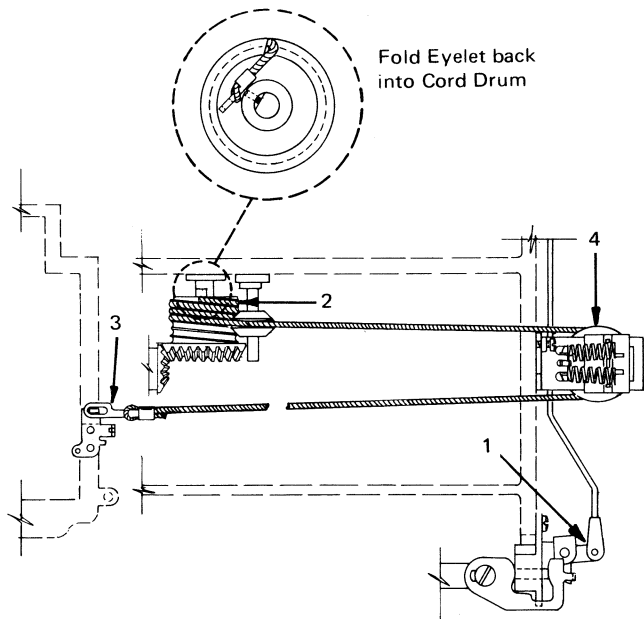

Figure 4-2. Escapement Cord Replacement
2. Disconnect the carrier return unlatching link (No. 1, Figure 4-2).
7. Connect the escapement cord to the drum, and wind approximately one turn of the cord around the drum (No. 2, Figure 4-2).
8. Thread the cord around the cord tension pulley (No. 4, Figure 4-2), and then connect it to the carrier (No. 3, Figure 4-2).